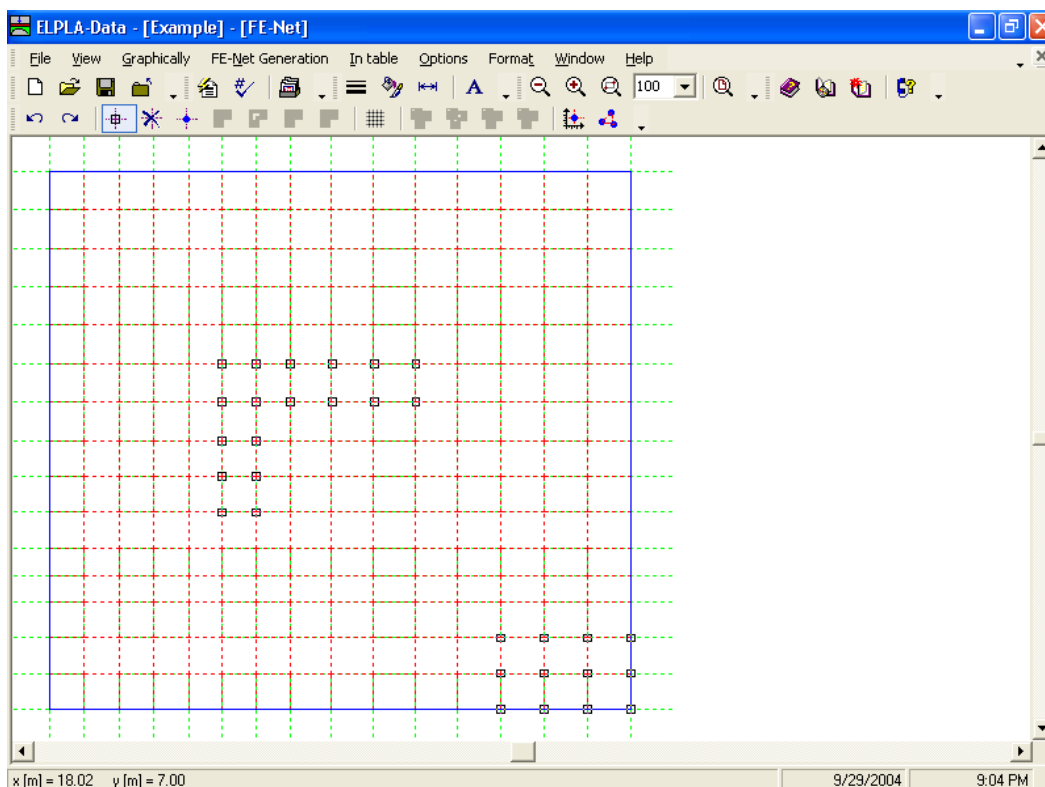
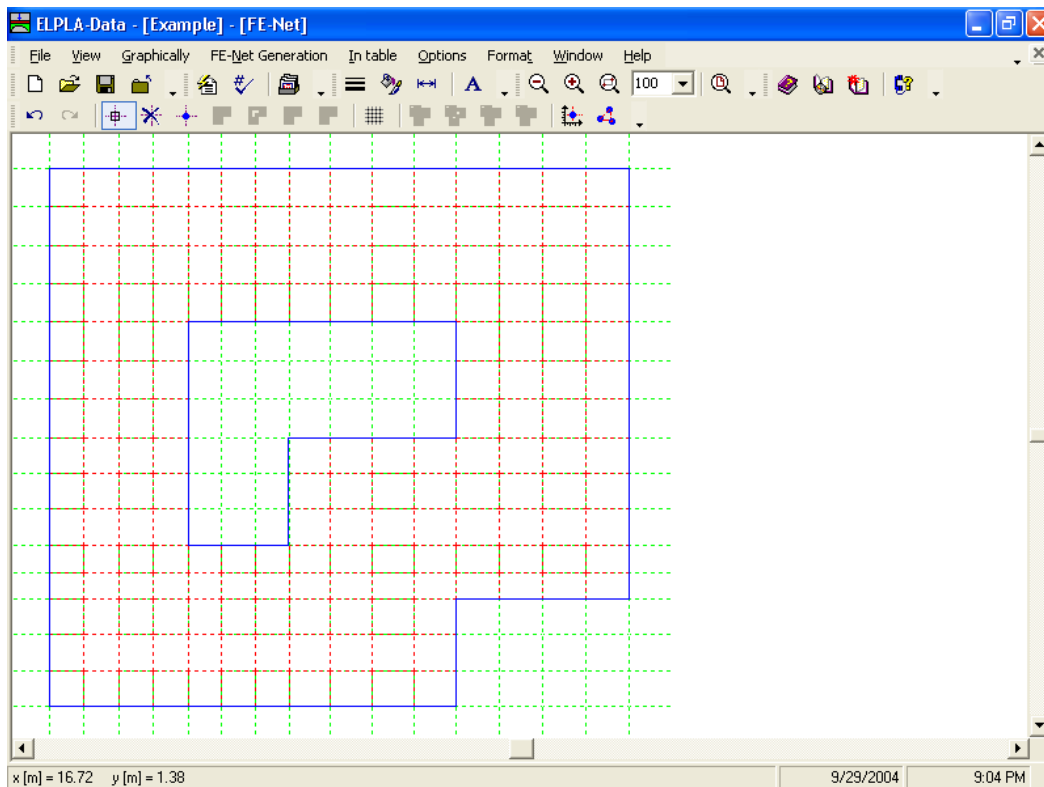

Figure 1-14 Generated FE-Net after selecting the unnecessary nodes
Figure 1-15 Final FE-Net after deleting the unnecessary nodes
To select the unnecessary nodes which are required to be removed from the net, first choose "Select nodes" command from "Graphically" menu. When "Select nodes" command is chosen, the cursor will change from an arrow to a cross hair. The command "Remove nodes" in the menu "Graphically" will be enabled, indicating the mode in which is being operated. Next, select the required nodes by clicking on each node individually or selecting a group of nodes as shown in Figure 1-14. To remove the selected nodes, choose "Remove nodes" command from the "Graphically" menu. The action of this command is indicated in Figure 1-15. To leave the graphic mode, press "Esc" key.
- Choose "Save FE-Net" command from "File" menu in Figure 1-15 to save the data of the FE-Net
- Choose "Close FE-Net" command from "File" menu in Figure 1-15 to close the "FE-Net" embedded program and return to the main window of *ELPLA-Data*